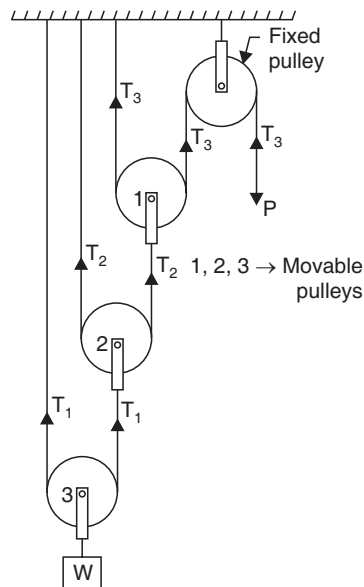

Fig. 10.7. First system of pulleys.
**10.12.4.1. First system of pulleys (or separate string system).** In this system a number of *movable pulleys* are used to give a greater mechanical advantage and *convenience in application of effort is applied by using last of all a fixed pulley*. In the system, one end of each string is tied to the fixed support while the other end passing round the periphery of the bottom pulley is fastened to the block of the next higher pulley (refer to Fig. 10.7).